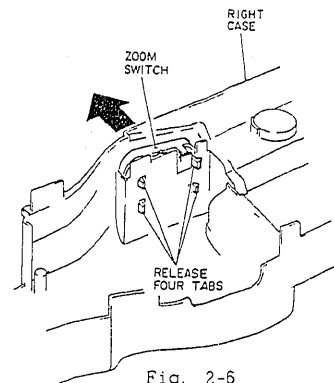

Fig. 2-6
- 1) Release four (4) tabs and remove the zoom switch in the direction of the arrow. (See Fig. 2-6)